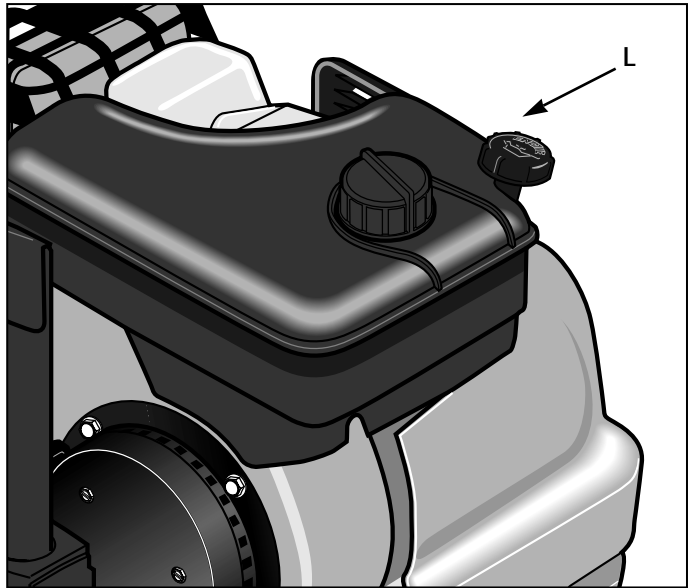

Fig. 2-5
2. With the tiller on level ground, unscrew and remove the oil fill dipstick (L, Fig. 2-5). Using a funnel, pour fresh motor oil into the dipstick opening. Add oil gradually and check the level with the dipstick several times to be sure not to overfill the engine. Add oil until the level is up to the "FULL" mark on the dipstick.